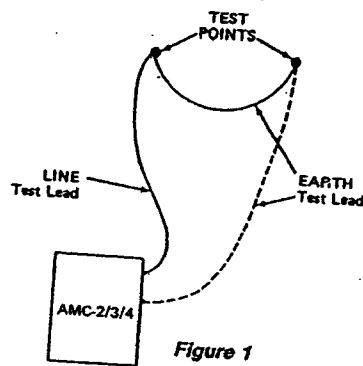

Figure 1
Equipment under test with the megohmmeter may build up a capacitive charge from the testing. With the AMC-2/3/4, you can (1) wait a few minutes for the charge to dissipate or (2) remove the test lead from the EARTH jack on the tester and touch to the equipment terminal that the other test lead (LINE) is connected to. See Figure 1.
$K_{40c}$  = temperature coefficient of insulation resistance as observed for temperature t°C see Fig. 1